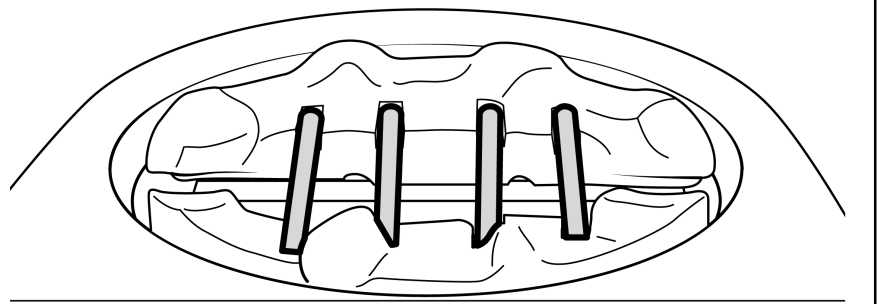

Figure 7 Ceramic support rod Location
3. There are four ceramic support rods. Locate the ceramic support rods into the slots of the ceramic base (See figure 7)